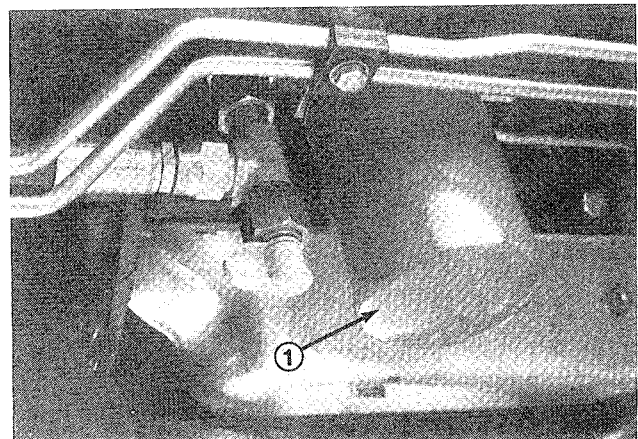

Figure 48
### REPLACING HYDRAULIC FILTER (Fig. 48)
2. Clean area around filter mounting area (Fig. 48). Place drain pan under filter and remove filter.